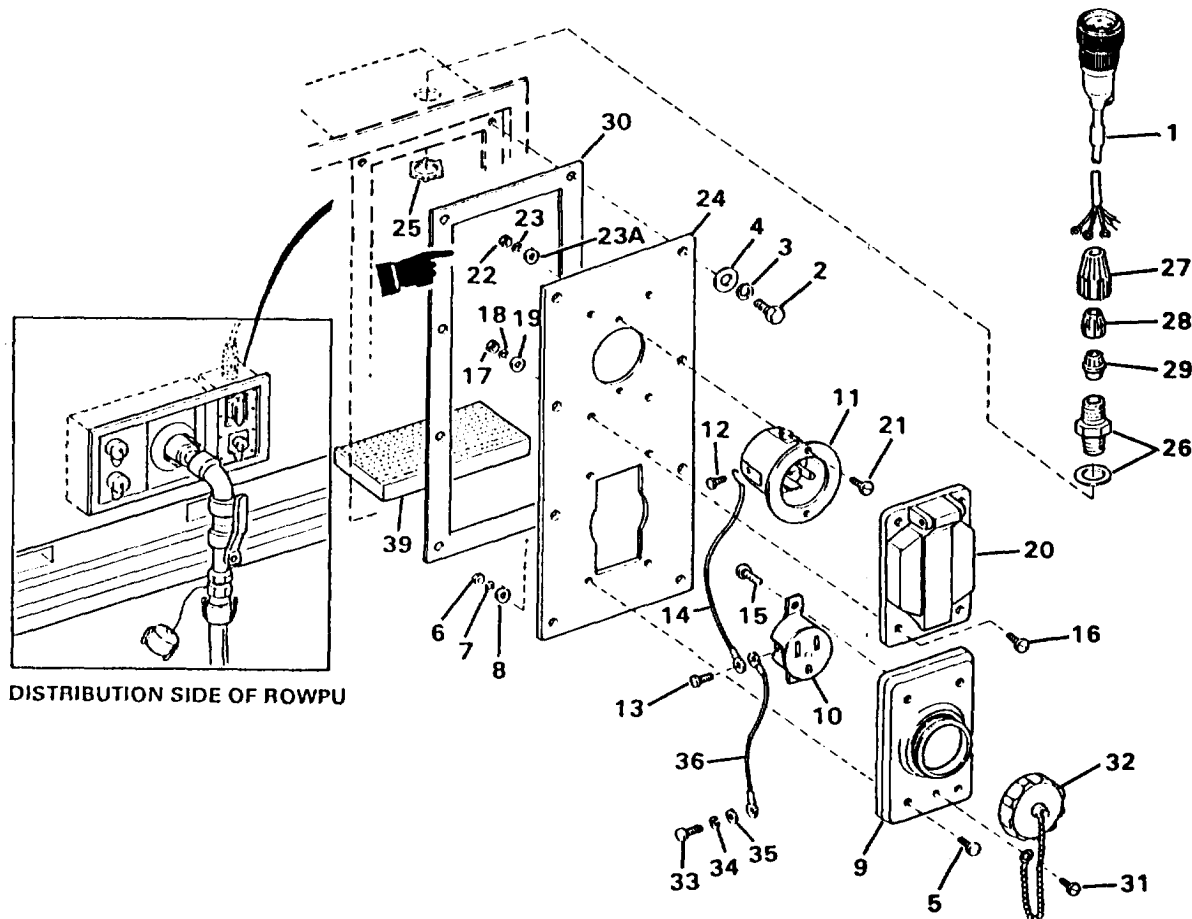

Figure 4-37. Utility Cable External Electrical Panel Assembly
- a. Refer to Figure 4-37 and disconnect the plug of cable (1) from power cable.
- b. Remove eight capscrews (2), lockwashers (3) and washers (4) and pull panel (26) away from the side of the ROWPU.
- c. Remove four screws (5), nuts (6), lockwashers (7), washers (8) and remove receptacle assembly (9).
- d. Tag and disconnect wires from cable (1) to female plug (10) and male connector (11). Remove screws(12 and 13) to disconnect ground wire (14).
- e. Remove screws(15) and female plug (10).
- f. Remove four screws (16), nuts (17), lockwashers (18), washers(19) and cover (20).
- g. Remove two screws (21), nuts (22), lockwashers (23), washers (23A) and male connector (11). Panel (24) is now free.
- h. Remove conduit nut (25) and pull connector with sealing washer (26) and harness(1) out of the enclosure. Loosen nut (27) and remove retainer (28), bushing (29) and connector with sealing washer (26). Remove gasket (30).
- i. Remove screw (31) and dust cap (32), if necessary.
- j. Remove ground wire (36) by removing capscrew (33), lockwasher (34) and flat washer (35).